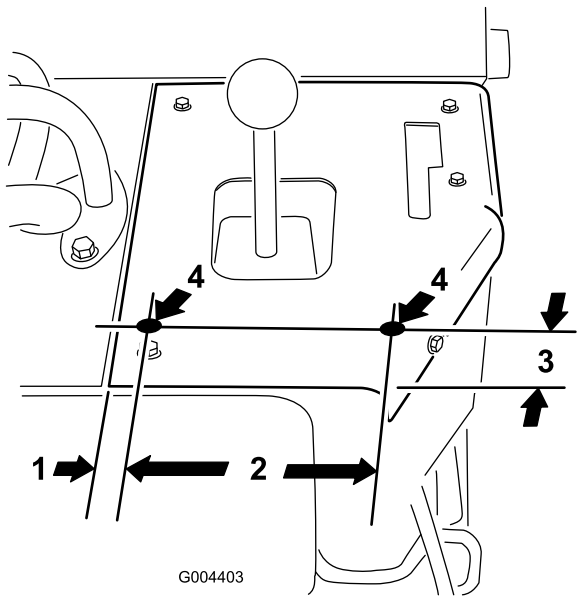

Figure 8
2. Locate and drill 2 holes (3/8 inch diameter) on the control panel below the loader-arm lever (Figure 8).